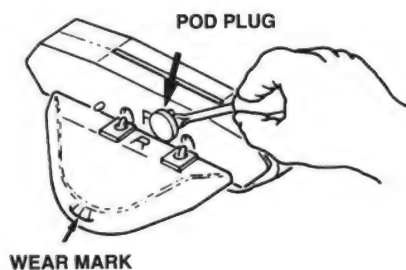

Figure 9
1. Check the condition of the "shoes, wings and flaps" periodically. The shoes and wings have wear indicators on their sides and should be checked occasionally to determine if they need replacing. The shoe wear indicator is a line on the side of the shoe that appears as a difference in texture. When this texture difference is no longer visible at the bottom of the shoe when viewed from either side, the shoes must be changed (*see Figure 8*). Also on the side, the wing wear indicator is a horizontal line which has three (3) vertical lines above it. When you can no longer see the horizontal line, the wings must be changed (*see Figure 9*). The Hayward **Navigator Tune-Up Kit** is available from your dealer. Shoes, wings and flaps may also be purchased separately.
- a) Using a screwdriver, remove the plugs from both pods (*see Figure 9*).